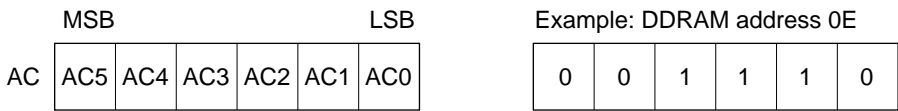

Figure 1 DDRAM Address
The DDRAM address (ADD) is set in the address counter (AC) as a hexadecimal number, as shown in Figure 1.